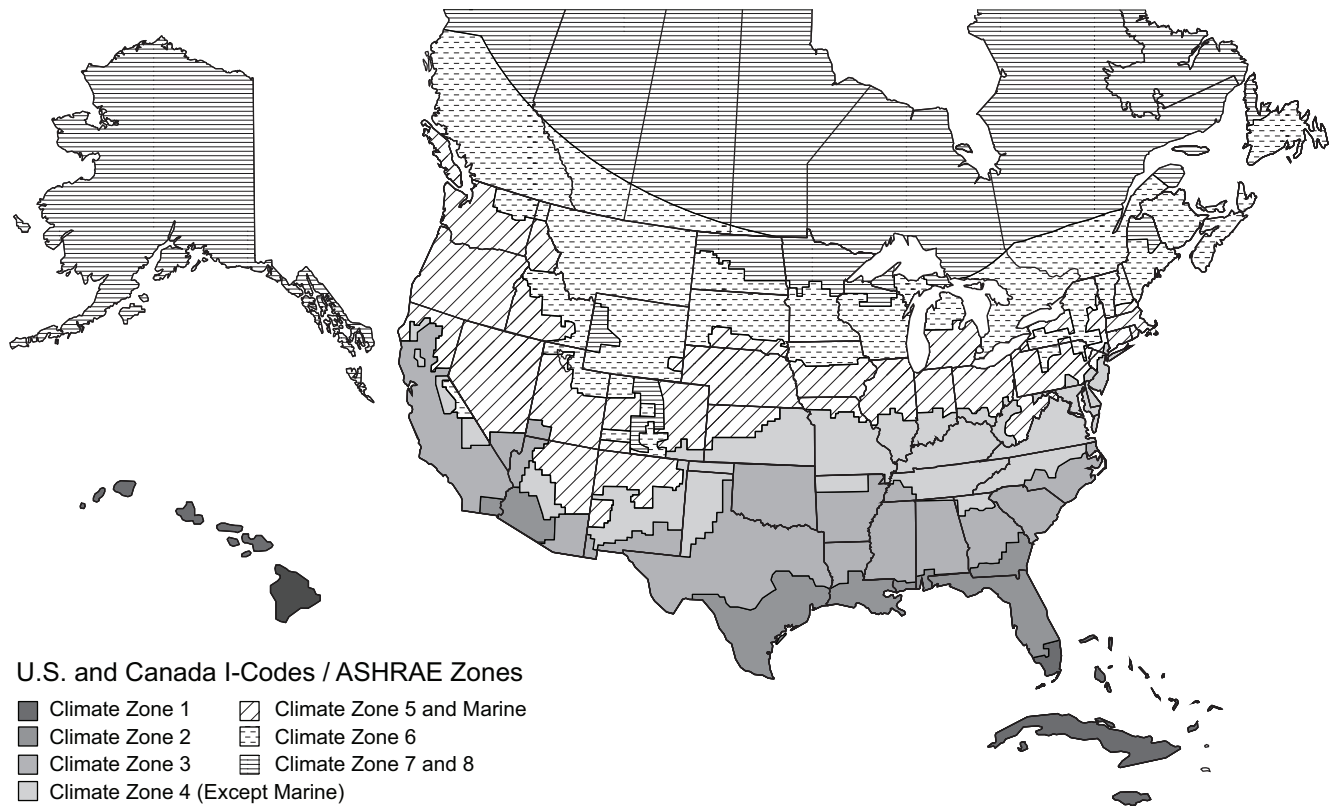

Fig. 94 — U.S. and Canada Climate Zones
- a. See Fig. 94 for map of U.S. and Canada climate zones.